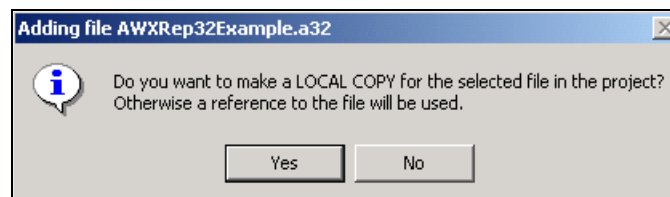

Figure 4.10
3. When you add an existing application file to a project, you can copy the file to the local project directory instead of running the file from its current location. To copy the file to the project folder, click **Yes** in the message box shown in **Figure 4.10**. Otherwise click **No** to run the file from its current location; the file's directory path is referenced in the right-hand pane of the ProjectWorX32 console.